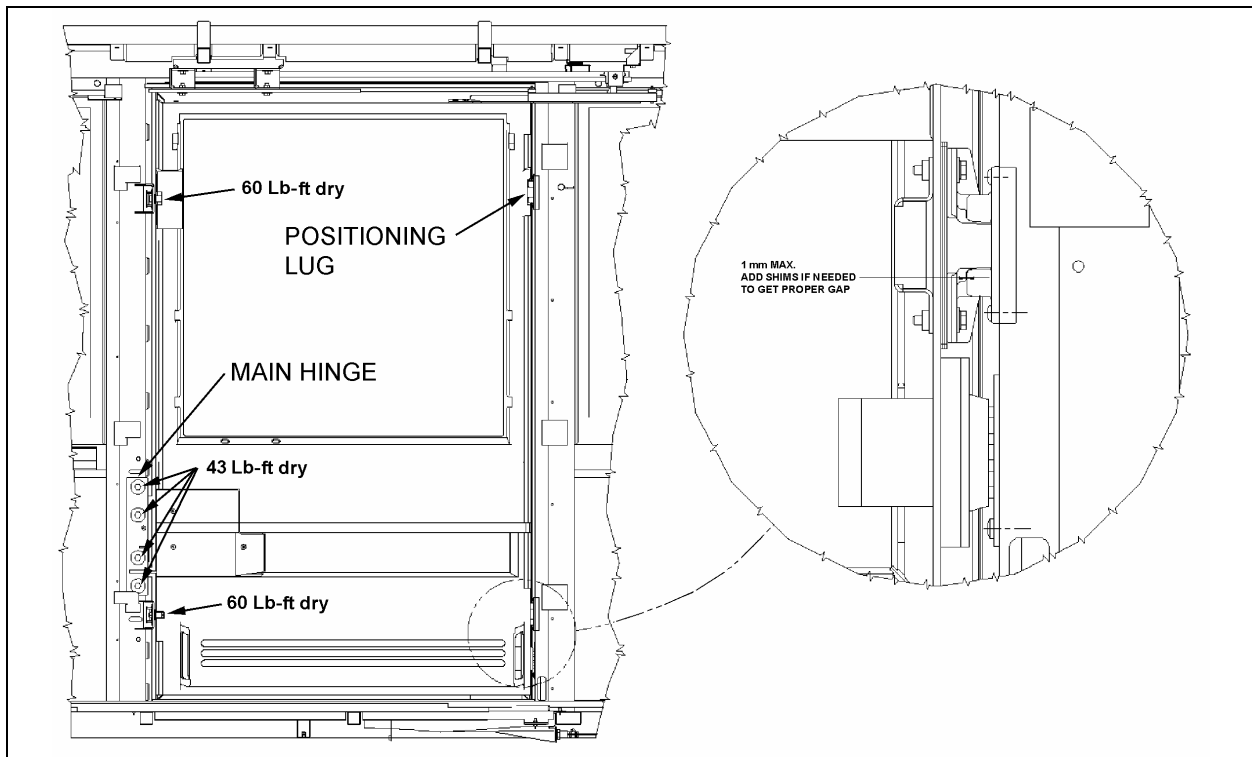

FIGURE 52: WCL SLIDING DOOR INSTALLATION
10. Install and adjust strikers. Torque to 60 Lb-ft (Refer to figure 52).